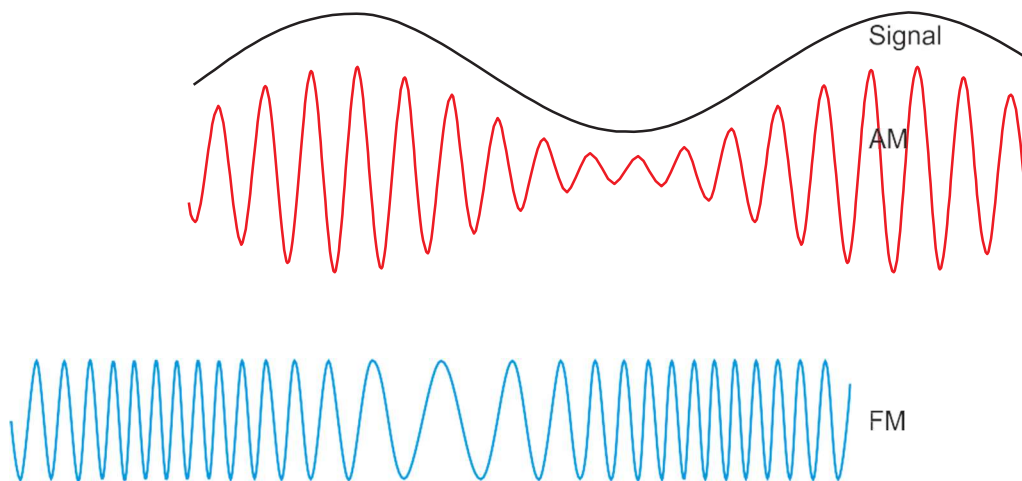

Figure 10.3: AM and FM modulation
Now, your exciter has generated the frequency that needs to be modulated with sound. Remember the full form of FM-frequency modulation. As you know, sound broadcasting can be carried by two different modes. One is called amplitude modulation (AM) and the other is called frequency modulation (FM). You have already learnt about them in Unit 10. For recapitulation, however, the wave forms of both these types of modulated signals are reproduced in Figure 10.3.